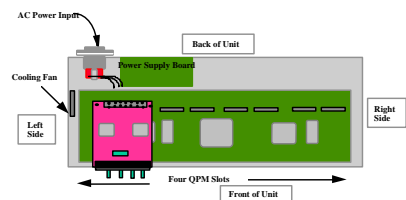

Fig. 3.9.2b Top View :
- Step 5.** Be sure the QPM front panel is guided into the front slot cut-out first and then precisely aligned the header pins with the holes in the socket slot mounted on the board. Slowly and carefully apply enough pressure on both rear corner of QPM Module to insert the QPM card's pins into position. A click sound will determine the proper lockup of the two, see Figure 3.9.2b. (If you **force** the QPM down when the pins are not properly aligned with the holes in the header, the pins will become bent and the QPM is damaged).